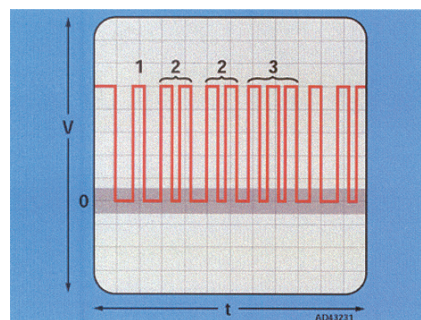

Fig 21 - Trouble code wave form
- Serial data signals will be generated by the engine control module (ECM), if it has a self-diagnosis facility - *Fig 21*.